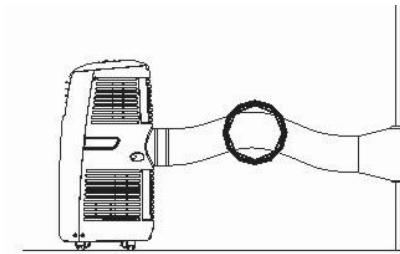

FIG.11
- Avoid kinks and bends in the exhaust hose as this will cause expelled moist air to build up causing the unit to overheat and shut down. Fig 11 & 12 show correct position